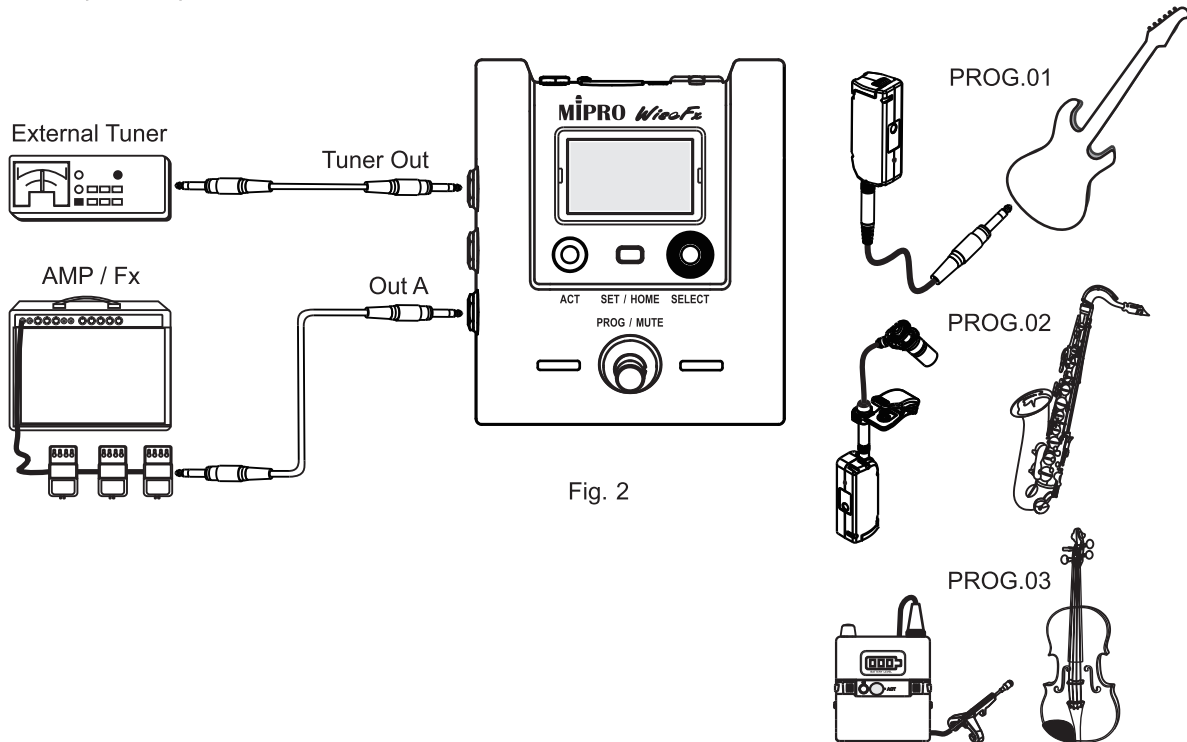

Fig. 2
### (A) Outputs to amplifier hookup, Fig. 2: